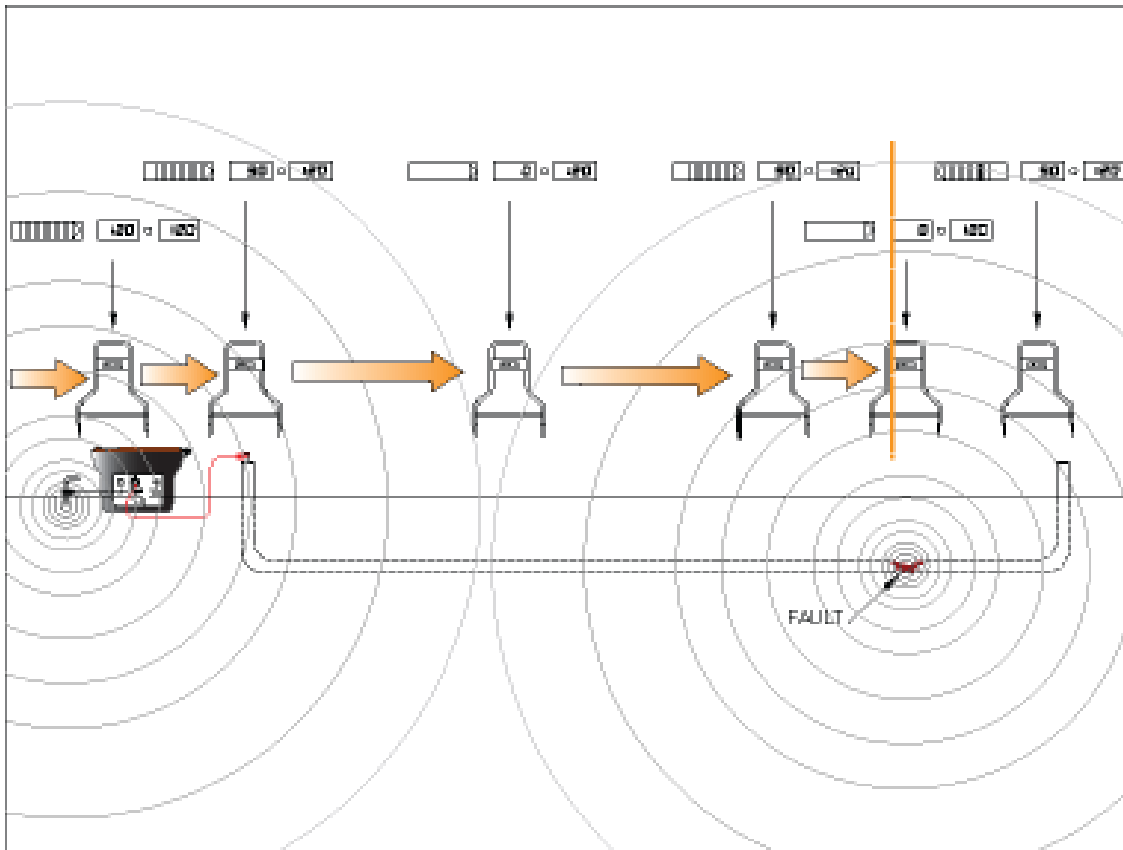

Figure 3-4 : Locating the Cable Fault with A-Frame Receiver
5. The number of bars will decrease when you move away from the synchronization location and will increase when you get closer to the targeted fault. **See Figure 3-4**